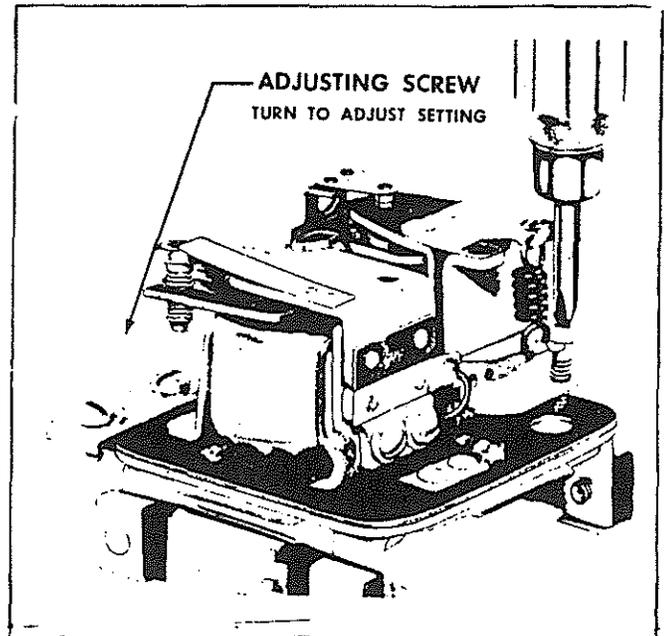

Figure 13. -- Adjusting voltage setting of current-voltage regulator unit (1118300 and 1118700 series).
**VOLTAGE SETTING (1118300 and 1118700 Series) --** Check voltage setting as described under Regulator Electrical Checks. Adjust voltage setting by turning adjusting screw. (Fig. 13.). Turn screw clockwise to increase voltage setting and counterclockwise to decrease voltage setting. After each adjustment, set cover in place before checking setting.